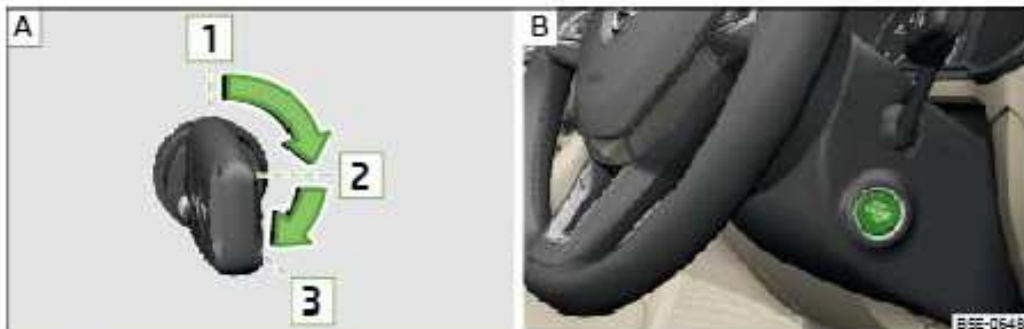

Fig. 172 Positions of the vehicle key in the ignition lock / starter button
Positions of the vehicle key in the ignition lock » Fig. 172 -
» Press the » Fig. 172 -  button, the ignition is turned on / off.
» On vehicles with **Ignition lock**, turn the key to position  and the engine starts » Fig. 172 on page 136 . Release the key, the engine will start automatically.
» On vehicles with **starter button**, press the button briefly » Fig. 172 on page 136 - , the motor will start automatically.
- » On vehicles with **Ignition lock**, turn the key to position  » Fig. 172 on page 136 .
- » On vehicles with **starter button**, press the button » Fig. 172 on page 136 - , The engine and the ignition will be switched off simultaneously.
» Keep the knob pressed » Fig. 172 on page 136 -  or press it twice within 1 second.